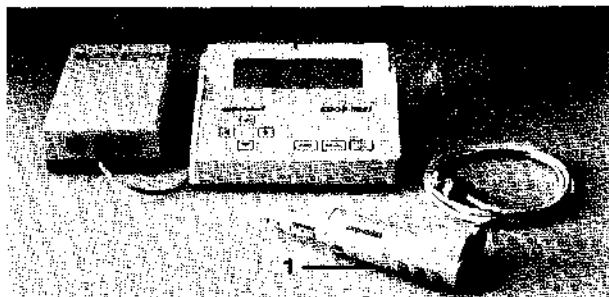

Fig. 1: EDOS
2.1 EDOS (Fig. 1 + 2)
Connect power unit, control unit and dispensing grip as shown in Fig. 1. Begin by connecting the dispensing grip and the control unit. To avoid unintentional loosening of the connections, secure the plugs with the screws and the screw sleeve.